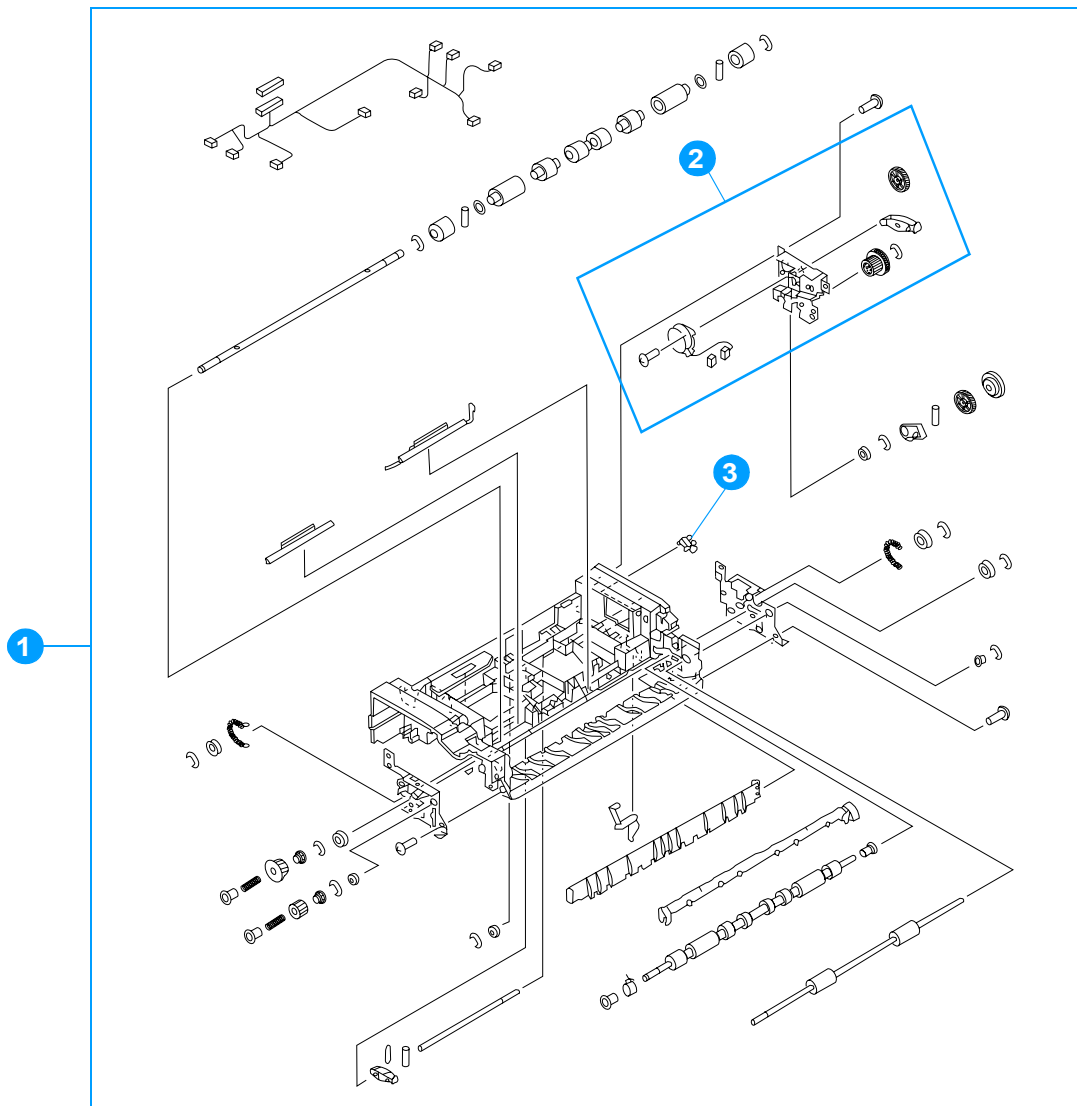
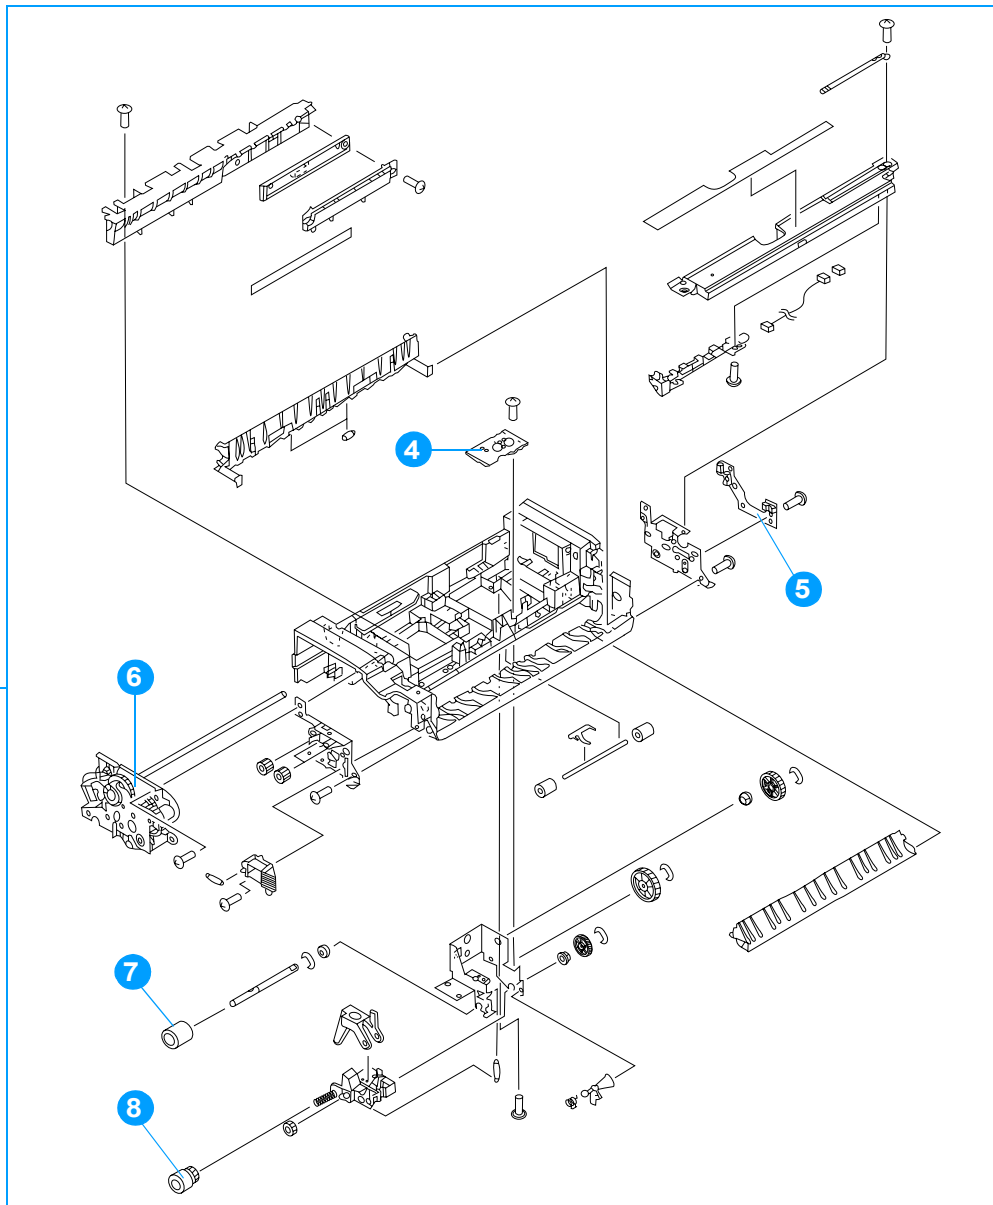

Figure 8-20 Paper pickup assembly (1 of 2)
Figure 8-21 Paper pickup assembly (2 of 2)
Table 8-20 lists parts shown in Figure 8-20 and Figure 8-21. If you order a replacement paper pickup unit (item 1), you will receive all parts shown in both figures.